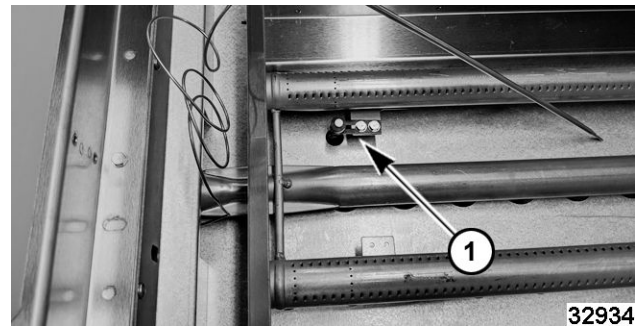

Fig. 105
4. Remove pilot (1, Fig. 105) from clip on burner.